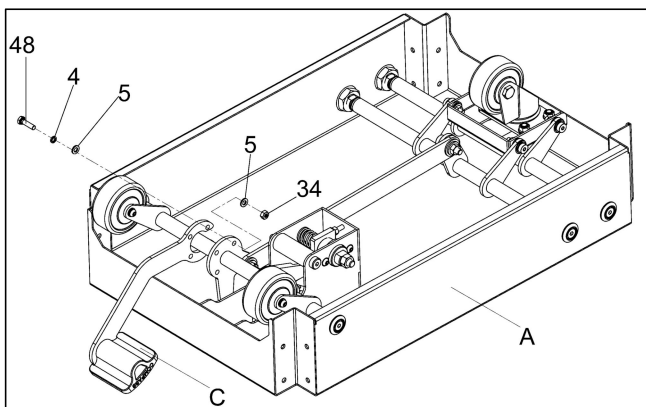

Fig.4
a. Place the base platform (A) upside down on a sturdy surface. Attach the foot pedal assembly (C) to the base platform (A) as shown in **Fig.4**.